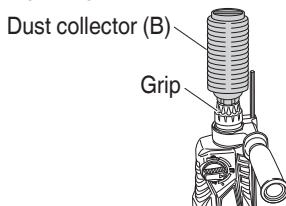

Fig. 5
7. Installation of dust cup or dust collector (B) (Optional accessories) (Fig. 4, Fig. 5)
When using dust collector (B), insert dust collector (B) from the tip of the bit by aligning it to the groove on the grip (Fig. 5)